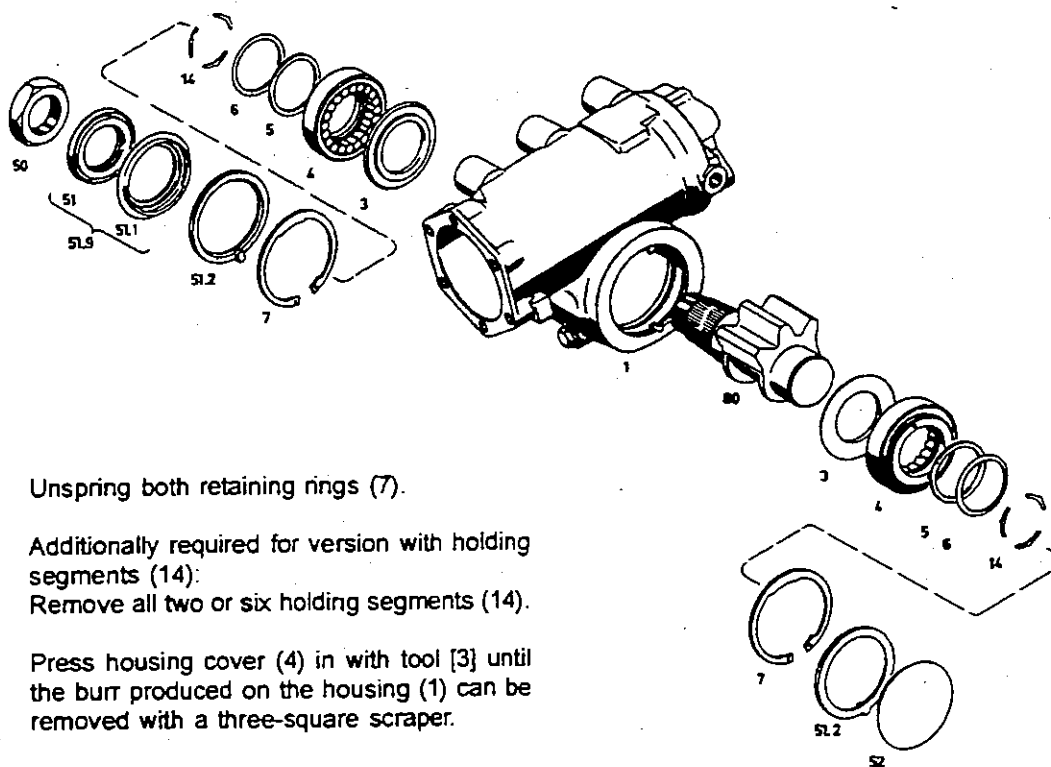

Fig.17
Remove dust seal (51), stop-ring (51.1), gasket (51.2) and plug (52) on both sides (Fig.17).